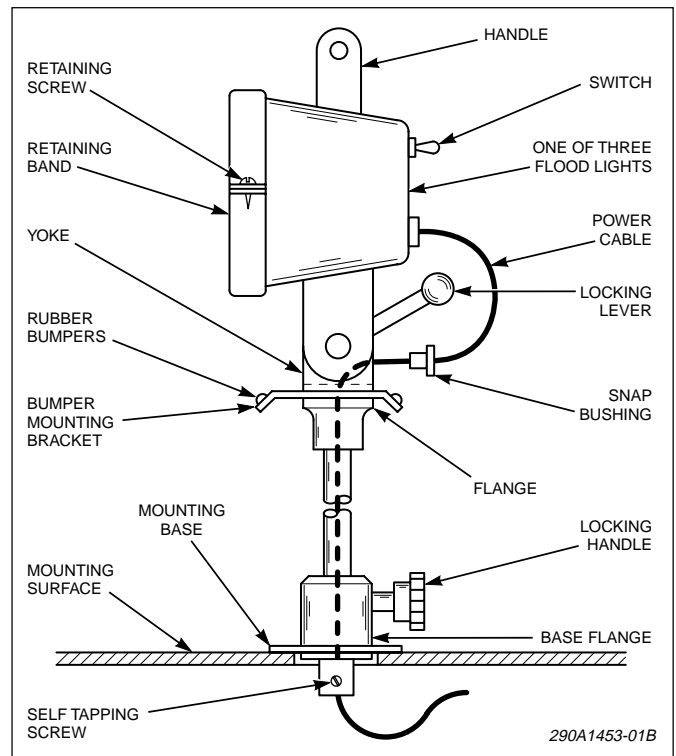

Figure 1.
4. Replace the mounting base on the pole. Thread the 8-32 phillips pan head self-tapping screw into the hole in the end of the pole, as shown in figure 1.
7. Attach the floodlight and bumper mounting bracket to the flange on the pole using four 1/4"-20 hex head screws and lockwashers. Make sure that the bumper bracket is secured between the yoke and the flange as shown in figure 1. In addition, ensure that the end with the longer distance between the mounting holes and the bend faces forward, as indicated in figure 1. Thread the locking handle in the mounting base and tighten it to lock the pole at the desired height.
8. Insert the snap bushing into the hole in the center of the yoke. Press one rubber bumper into each of the two holes in the bumper mounting bracket, as indicated in figure 1.